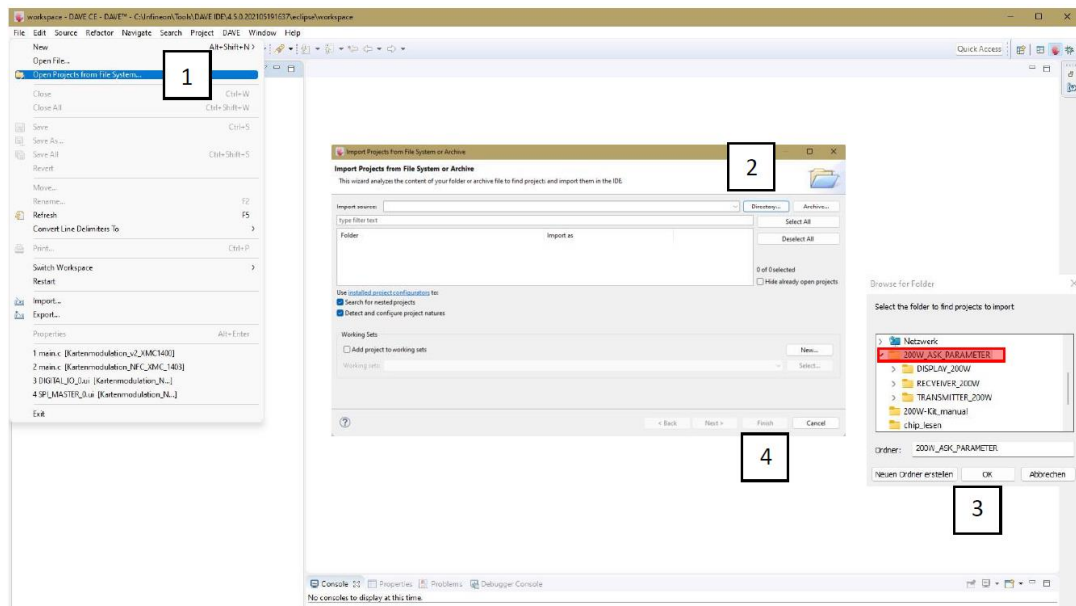
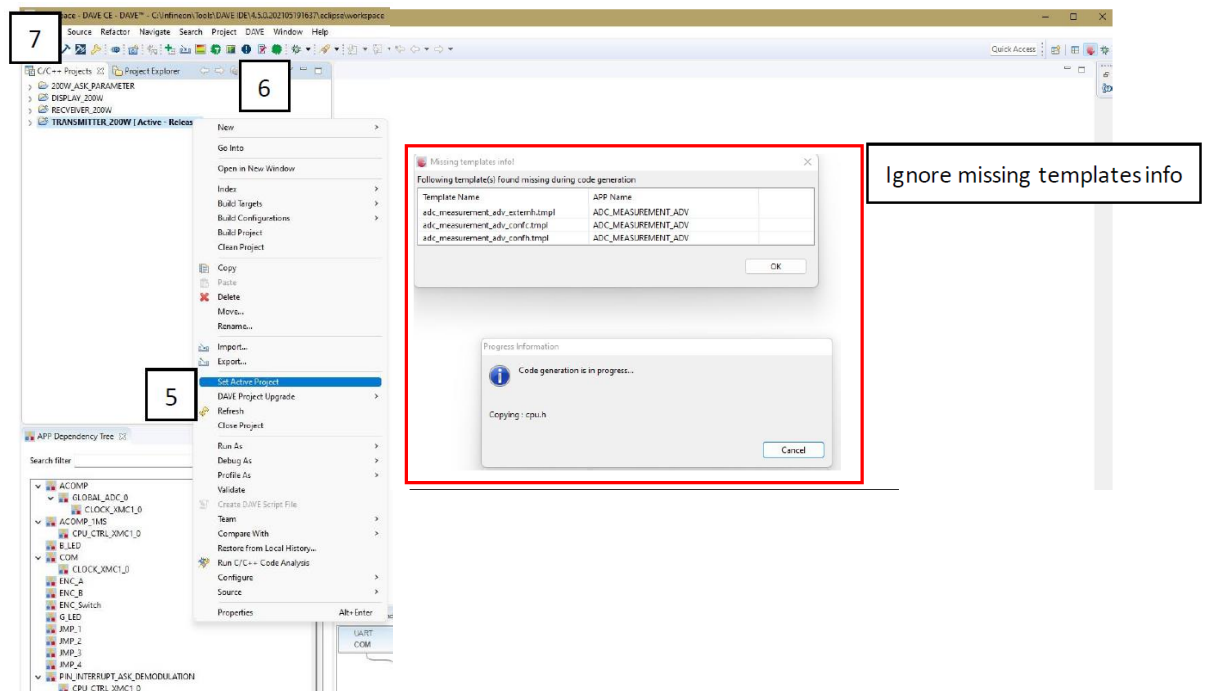

Figure 5a: Screenshots of Dave software IDE
Figure 5b: Screenshots of Dave software IDE
- To import 760308EMP 200W development kit Software into Infineon's Dave IDE, follow the steps from 1 to 7 as shown below in the Figures 5a to Figure 5b.
3. Select the whole extracted local folder where the 760308EMP software is saved. Here in the Figure 5a the software folder is named as 200W_ASK_Parameter and then click 'ok'.
4. Click on *Finish* as shown in Figure 5a.
5. Right click on the 'Transmitter_200W' on the left side under Projects tab and click on 'Set Active Project'. Ignore the warning message window that pops up as shown in Figure 5b.
6. Click on 'generate code', which is the icon in the menu bar on top highlighted with a red pen as shown in Figure 5b.
7. Click on 'Rebuild Active Project', which is the blue hammer icon, as shown in Figure 5b.
- a) Right click on the '*Receiver_200W*' and click on '*Set Active Project*', as shown in Figure 5b.
- b) Click on '*generate code*', as shown in Figure 5b.
- c) Click on '*Rebuild Active Project*', as shown in Figure 5b.